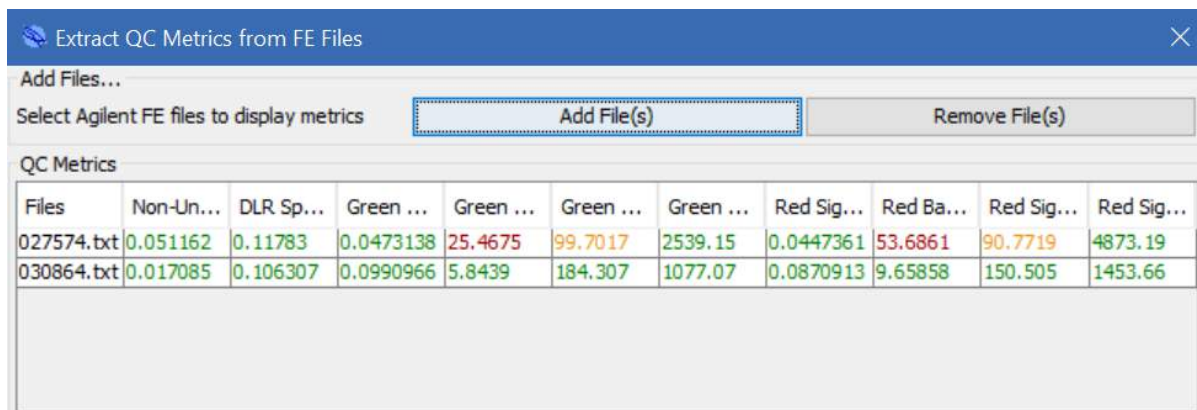

Figure 30: Extract QC Metrics from FE Files window.
- **FE file QC metrics** — It is possible to view some of the QC metrics (those contained in the FE files) before any analysis has taken place. In order to do this, choose **Tools** from the menu bar and then click **Extract QC Metrics from FE Files**. This will bring up a window like that seen in Figure 30. Choose **Add File(s)** to load FE files into the table. The QC metrics contained within the FE files are as follows: Non-uniform features, DLR spread, green (and red) signal reproducibility, green (and red) background noise, green (and red) signal-to-noise ratio and green (and red) signal intensity.